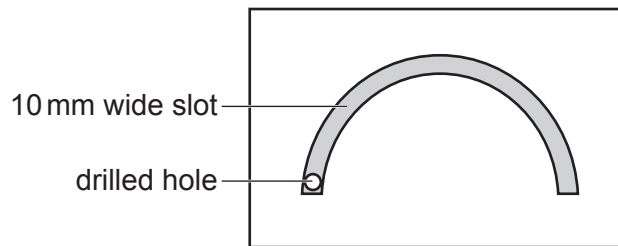

Fig. 5.1
- 5 Fig. 5.1 shows a slot marked out on sheet material.